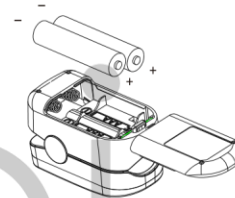

Figure3.Battery Installation
- Push the battery cover horizontally along the arrow shown as figure 3.